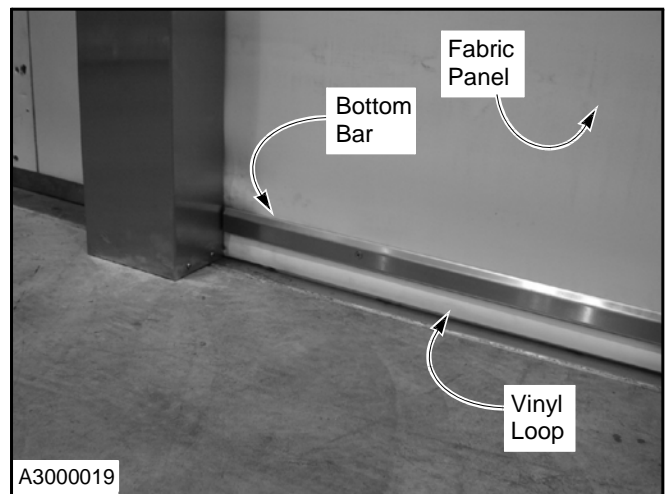

Figure 16
1. Inspect the screws securing the bottom bar to the fabric panel. It is critical that all the hardware along the length of the bar, on both sides of the bar, is tight to prevent the fabric panel from shifting in the bar. Tighten the hardware as required. (See Figure 16.)